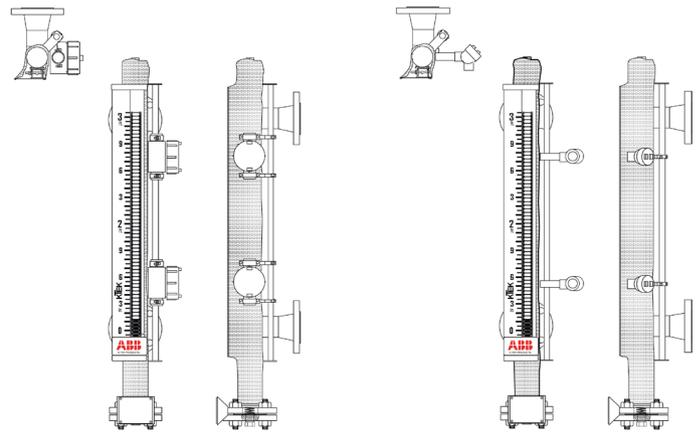

Figure 3.8-1 MLG with Switches
6. These adjustable brackets and clamps allow re-positioning this switch at any point along the measuring range of the level gauge. Note: Insulation jacket pads are intended to wrap only the KM26 chamber, not the limit switches themselves. (Figure 3.8-1 and Table 3-9)